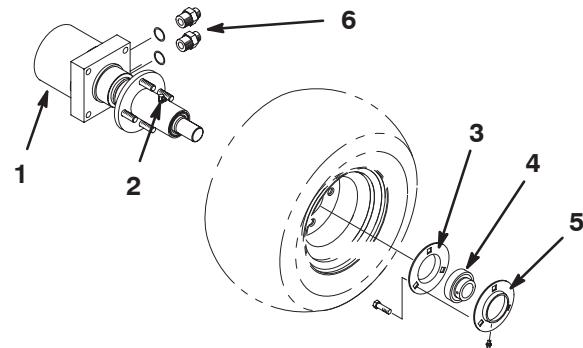

Figure 1
- Remove the capscrews and lock nuts securing the flangettes and bearing tab to the castor fork (Fig. 1).
- Remove both socket head screws, flat washers and lock nuts securing the hydraulic motor and hub assembly to the castor fork (Fig. 1).
- Loosen both setscrews on bearing. Slide flangettes and bearing off the motor shaft (Fig. 1).
- Remove the grease fitting from the hydraulic motor and hub assembly (Fig. 1). Remove four lug nuts and wheel assembly from the hub drive studs.